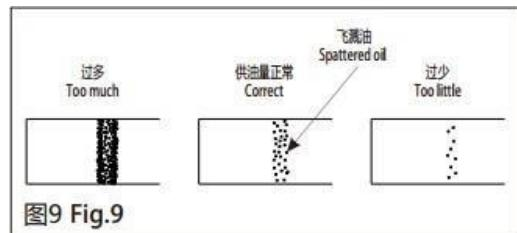

图9 Fig.9
1) The above standard sample (see Figure 9) can be slightly adjusted according to different sewing process requirements, but it should not to increase or decrease too much. When there is too little oil, the rotary shuttle will heat up, and when there is too much oil, it will contaminate the seam material.